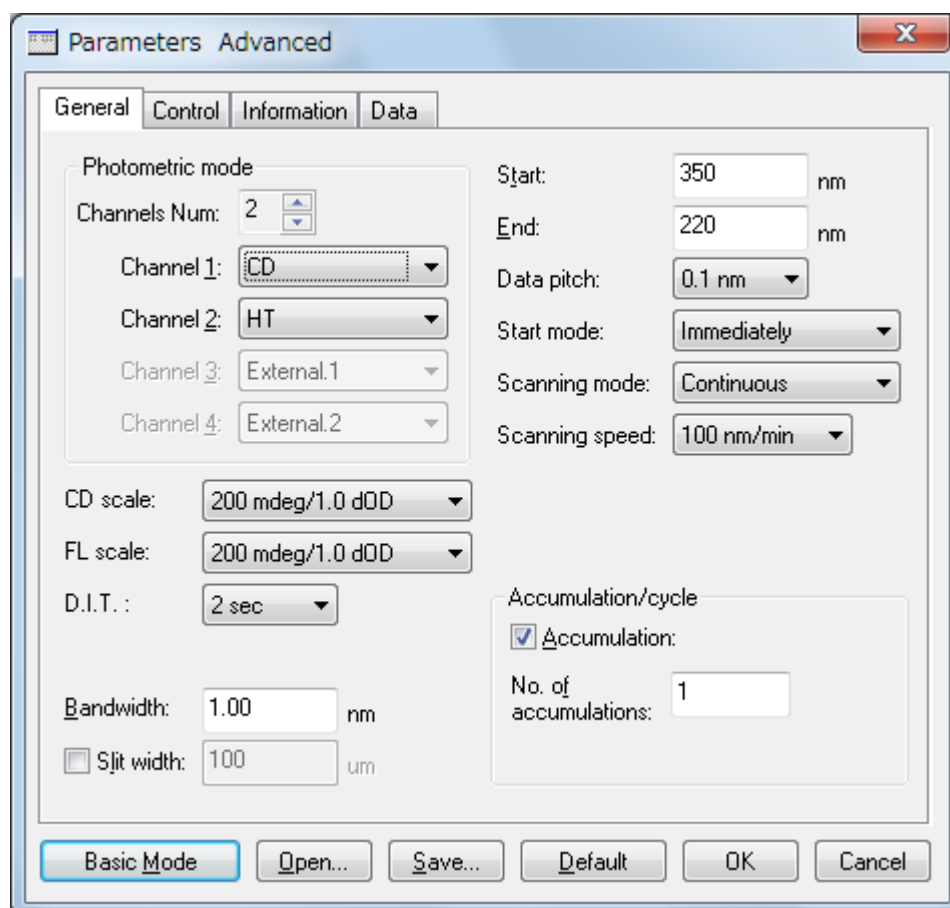

Figure 4.2 [General] tab in [Parameters] dialog box
- (1) Select [Parameters...] from the [Measure] menu (or click the  button) to display the dialog box in Fig. 4.2. The [Parameters] dialog box contains the [General], [Control], [Information], and [Data] tabs. The [General] tab is open by default in the [Parameters] dialog box. The page can be changed by clicking each tab at the top of the dialog box.
- (2) The parameters can be switched between two modes: Basic mode and Advanced mode. In Basic mode, the choice of parameters is partially limited. In Advanced mode, each parameter is specified individually. The parameters described in this section are specified in Basic mode. To switch between Basic and Advanced modes, click the <Basic Mode> or <Advanced Mode> button.
- (3) Specify the measurement parameters in the [General] tab as follows.
The following example describes how to specify the start wavelength. Click the [Start] text box to edit the start wavelength. When the cursor appears in the text box, values can be entered. Type the desired wavelength (in the example in Fig. 4.2, 350 nm) in the text box to set the start wavelength.